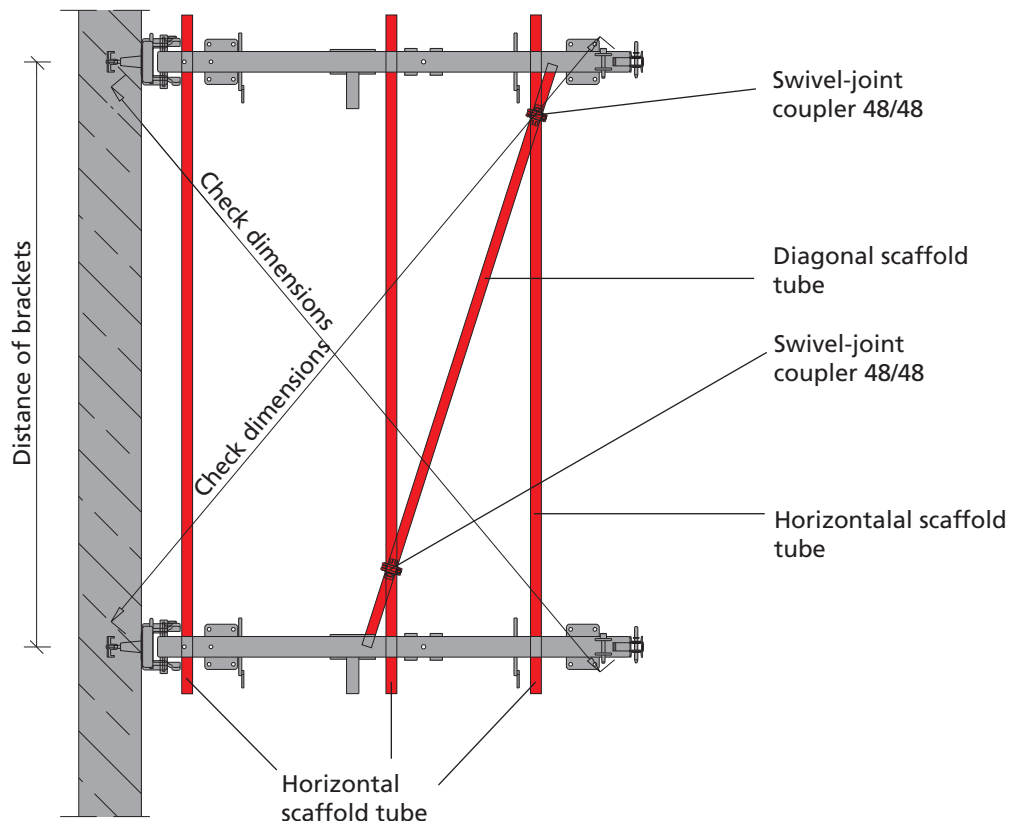

Fig. 16.1
1. Check distance of brackets (Fig. 16.1).
2. Attach three (3) horizontal scaffold tubes to the bolt on tube couplers of the bracket. Attach one (1) diagonal scaffold tube to the two (2) horizontal scaffold tubes by using swivel-joint couplers 48/48 (Fig. 16.1 and 16.2).